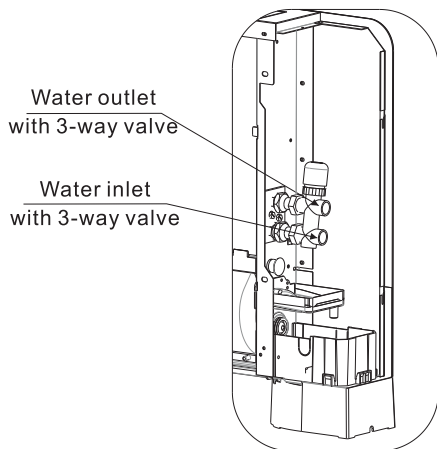
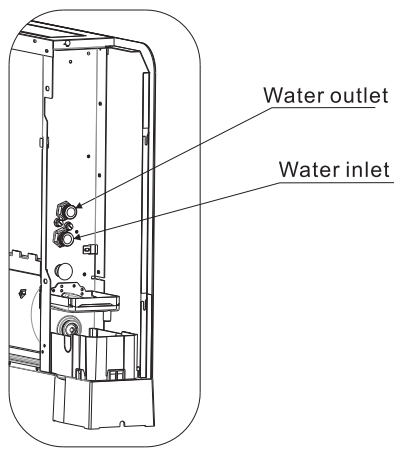

Fig. 13
Fig.14
4.4.1 Refer to fig.13 and fig.14 to connect the inlet and outlet lines. The hydraulic lines and joints must be thermally insulated.